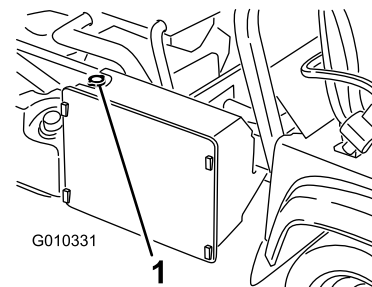

Figure 54
3. Remove the radiator cap (**Figure 54**).
4. Remove the reserve-tank cap (**Figure 54**).
7. Top off the radiator and install the cap (Figure 54).